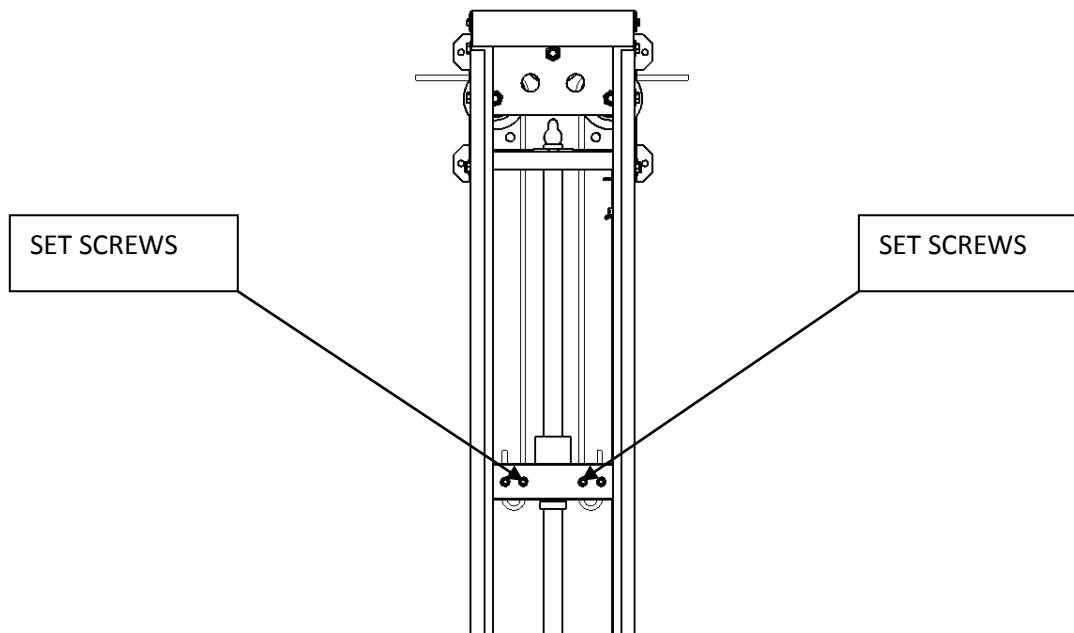

Figure 17
10. To secure cable to load block, run cable through hole nearest the center in load block, then loop back up through the outboard hole. Tighten all set-screws. **(Figure 17)**